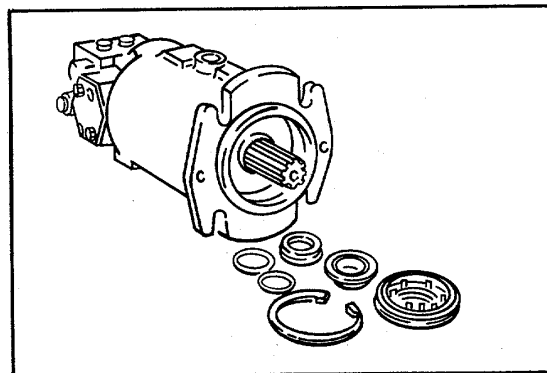

Figure 19.
6. Refer to Fig. 19 and account for all the parts shown.